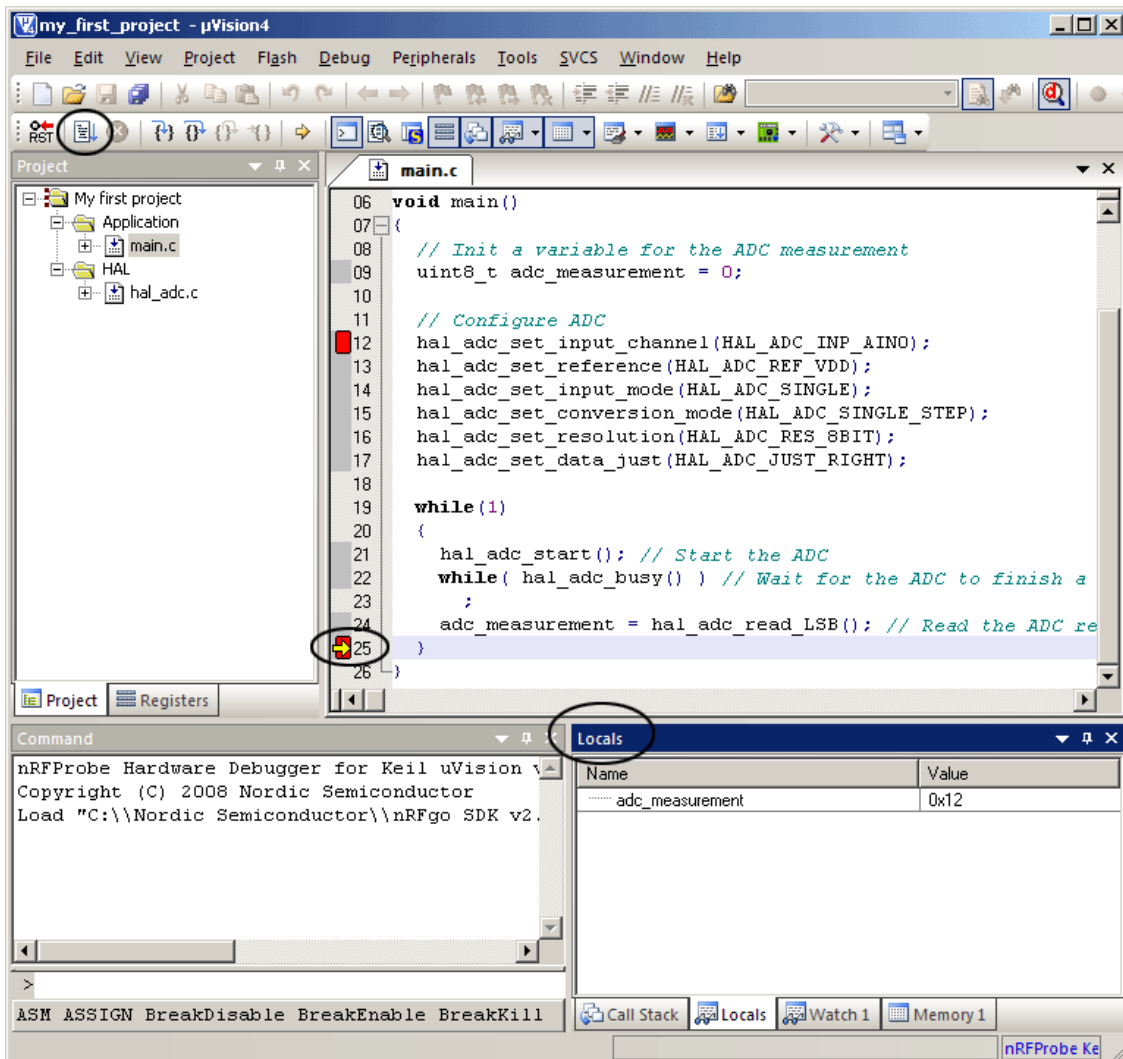

Figure 37. Running to breakpoint and reading out local variables
- Each time the program stops, a yellow arrow (see encircled area around yellow arrow in Figure 37.) where the program currently is running, and local variables are read out in the “Locals” window to the bottom right of the Keil window.